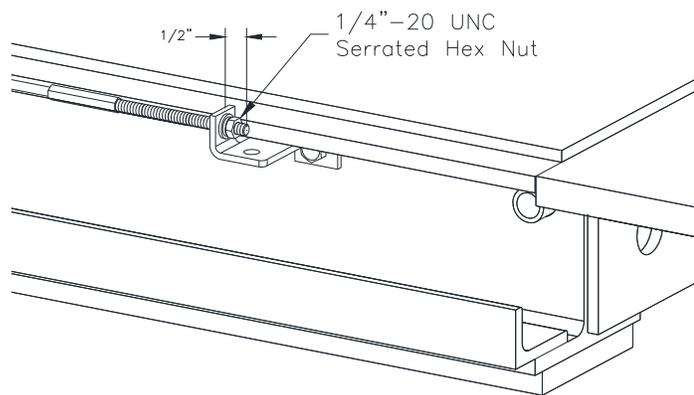

Figure 8
17. Attach threaded end of cable to Cable Bracket as shown in **Fig 8**.